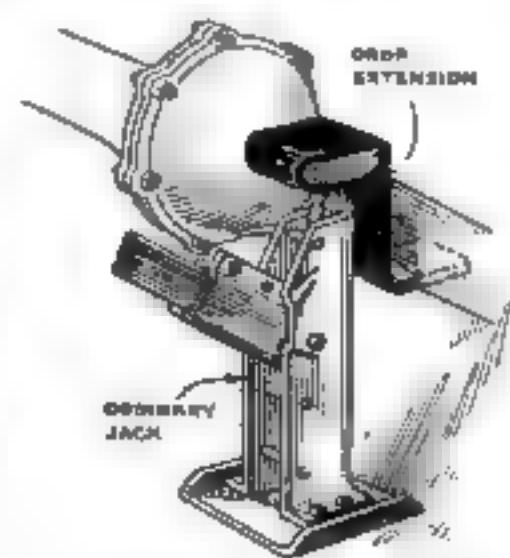

Fig. 4. Heavy strap iron is bent to make drop extension for jack.
10. Put beams, rafters, and roof slats in position (see Fig. 4)
4. "Tack" the 1 by 3 in. rails on the posts to hold them the proper distance apart at the top (see Fig. 4).
Fig. 4. The dimensions given need not be followed but should serve to give an idea of the general proportions of the structure. Redwood is one of the most durable woods to use for pergola construction.
FIGURE 4 shows a way to form a drop extension out of a heavy piece of strap iron. This drop extension will prove extremely useful in cases where it is necessary to get under the axle when the jack itself is too high. Do not attempt to make the drop extension out of light strap iron. The steel must be so thick that there will be no chance of the weight bending the lower angle and permitting the axle to slip.